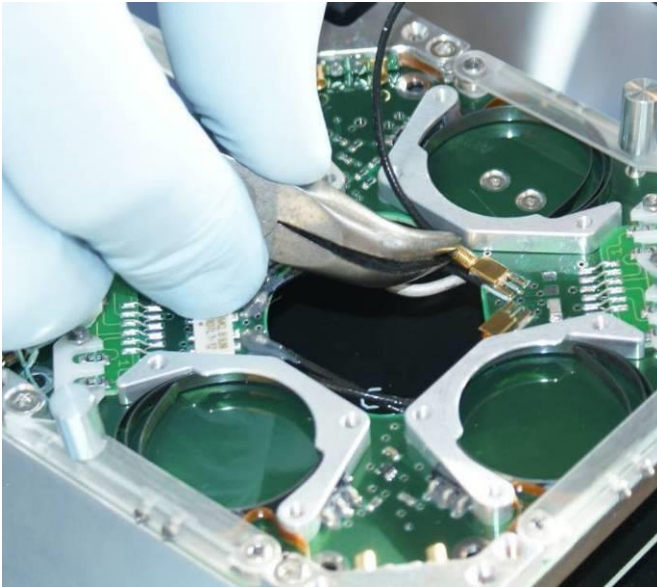
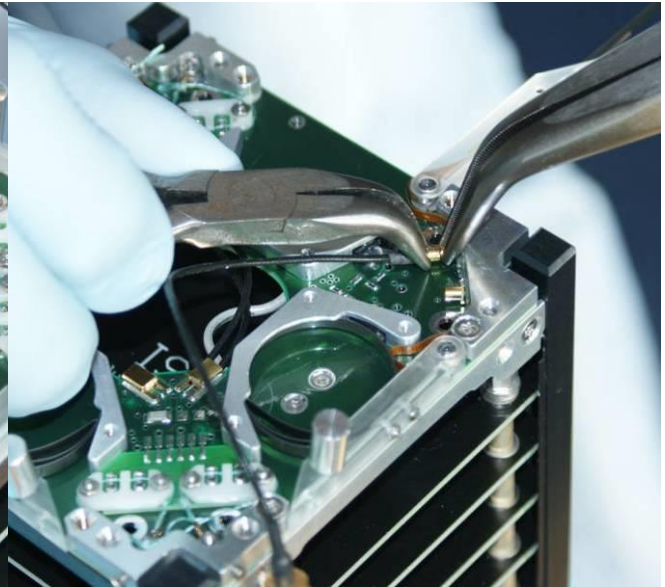

Figure 5-9 Mating of J2 for turnstile and dipole configurations
Figure 5-10 Mating of flex-rigid PCB connector for monopole configurations
5. Connect the RF connector(s)/cable(s) to the satellite radio transceiver and the AntS (Refer to Figure 5-9 and Figure 5-10).
To mate or de-mate RF connectors it is recommended to physically support the connector during the process to prevent damage to the PCB (see Figure 5-9 and Figure 5-10).